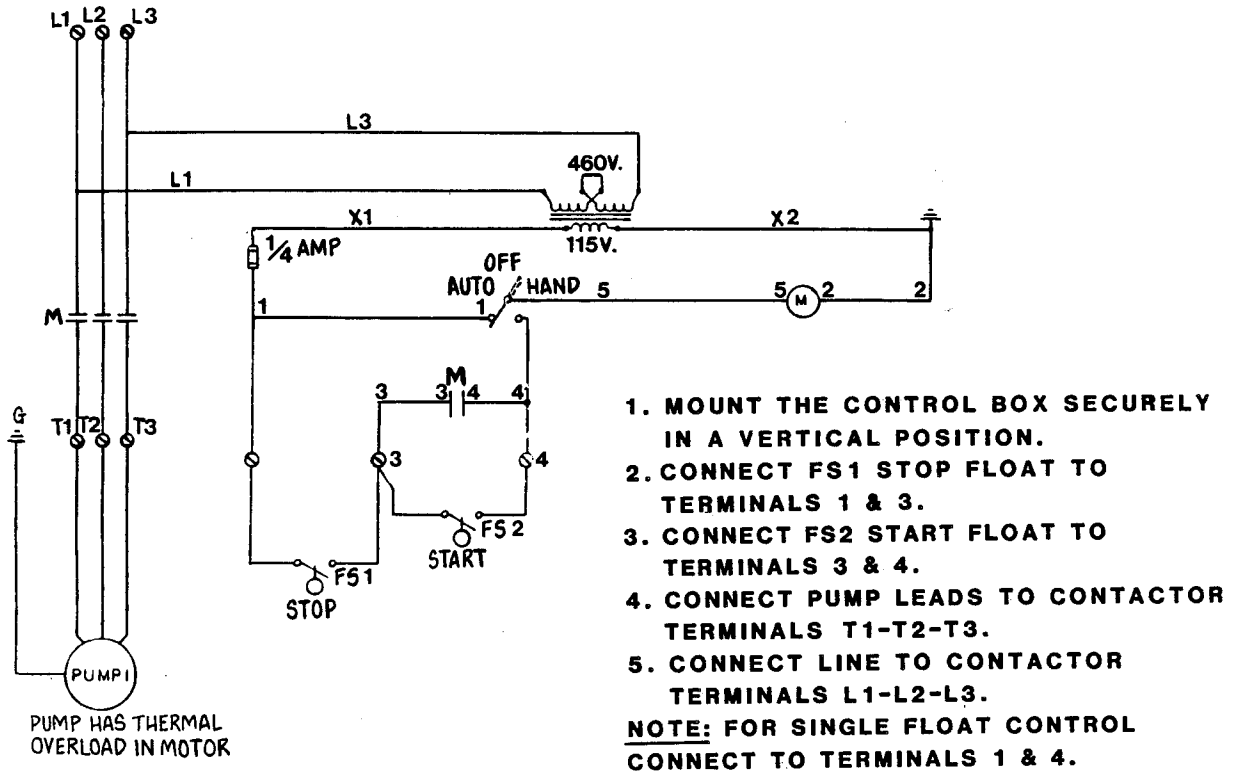

Figure 3. Control Box Wiring And Parts List
Connect the pump motor cables to the optional control panel in accordance with Figure 3 on page B-7.
- a. Measure the incoming voltage across lines 1 & 2, 2 & 3, and 1 & 3 while the pump is **operating at full capacity**. See Figure 3 on page B-7.